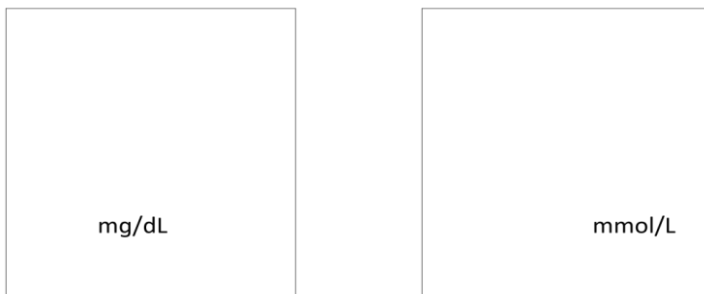

Fig 5.15
- Press the right or left button to select the Measurement Unit. The unit can be set to “mg/dL” or “mmol/L” (Ref Fig 5.15).